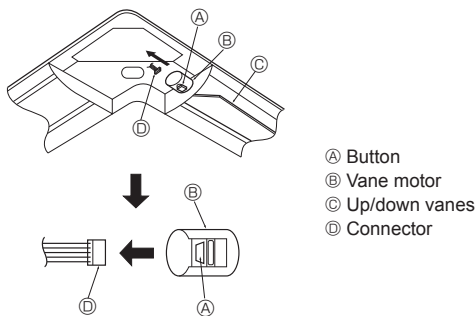

Fig. 6-11
- Take the lead wires CN4Y (white) and CN6Y (red) of the i-see sensor corner panel ⑦ from the side of the electrical box on the unit and make sure to connect them to the connector of the controller board.
- Lead wires of the i-see sensor corner panel ⑦ should be fixed at the rib of the grille with the fastener ④ so that there is no slack.
- Lead wires should be held together with the lead wires of the unit and fixed with 2 of the fastener ④ so that there is no slack.
- * The i-see sensor corner panel should be fixed onto the grille ① with screw ⑥.
6.7. Locking the up/down airflow direction (Fig. 6-11)